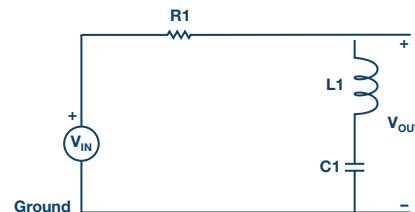

Figure 2. Band reject filter circuit.
All the frequencies below f_L and above f_H are allowed to pass and the frequencies between are attenuated by the filter. The series combination of an L and C as shown in Figure 2 is such a filter.
To show how a circuit responds to a range of frequencies, a plot of the magnitude (amplitude) of the output voltage of the filter as a function of the frequency can be drawn. It is generally used to characterize the range of frequencies in which the filter is designed to operate. Figure 2 shows a typical frequency response of a band-pass filter.
1. Setup the filter circuit as shown in Figure 2 on your solderless breadboard, with the component values $R1 = 1 \text{ k}\Omega$, $C1 = 0.1 \mu\text{F}$, $L1 = 20 \text{ mH}$.
- ▶ Use the band-pass circuit in Figure 2, with $R1 = 1.0 \text{ k}\Omega$, $C1 = 0.1 \mu\text{F}$, and $L1 = 20 \text{ mH}$ so that we can sweep the input frequency from 500 Hz to 12,000 Hz and plot the signal amplitude of both Channel A and Channel B and the relative phase angle between Channel B and Channel A.
- ▶ With the circuit connected to the ALM1000, as in Figure 2, start the ALICE Desktop software.